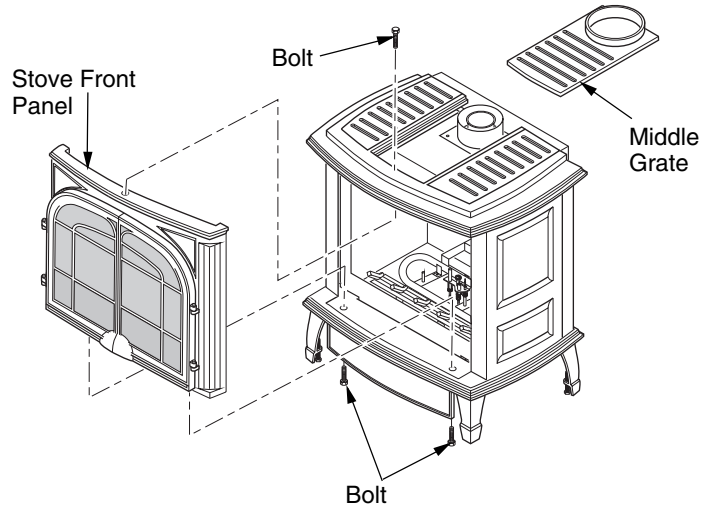

Figure 40 - Removing Front Panel from Stove (Oxford™ Model Shown)
1. If stove front panel is still installed, remove 2 bolts from bottom of stove and one from the top of stove to remove front panel (see Figure 40). For the Oxford stove the middle grate will need to be removed to remove the top bolt.